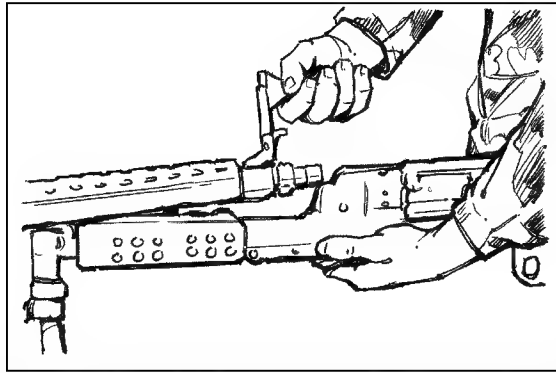

Figure 3-24. Replacement of the barrel assembly.
a. **Replacing the Barrel Assembly.** Insert the gas regulator plug into the gas hole bushing so that it is on the number one setting. (number 1 gas setting on the regulator faces towards the barrel). Place the gas collar over the front end of the gas regulator plug, while pushing against the spring, rotate counterclockwise until it stops. Insert one of the metal tabs of the heat shield in to the hole located of the sides of the gas hole bushing, then rotate it so that the other tab locks in place. Then push down on the heat shield so that it snaps onto the barrel. With gas regulator downward and carrying handle in the vertical position, place barrel on the barrel support (located on the gas cylinder). Keeping the gun upright, pull the barrel to the rear ensuring the gas regulator is guided into the gas cylinder. Pull the barrel fully into the receiver and rotate the carrying handle completely to the right, ensuring to count the number of clicks. If the number of clicks fall between 2 to 7, the headspace is set correctly. If the number falls outside 2 to 7, turn it in to the unit armor (make sure that the threads on the barrel are located on top and bottom and on the inside of the receiver make sure that the threads are located on the left and right) (Figure 3-24).